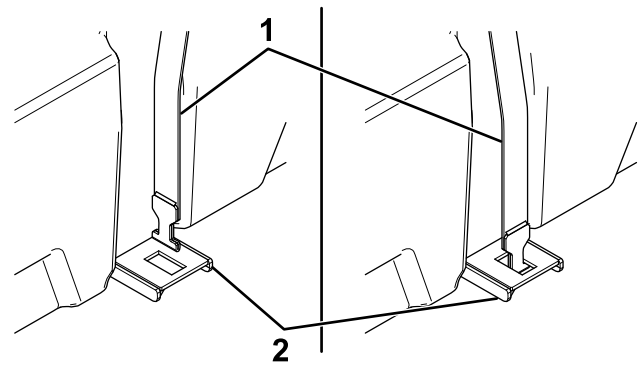

Figure 6
12. Insert the T end of the tank straps into the back of the frame rails and twist them 90° to secure (Figure 6).